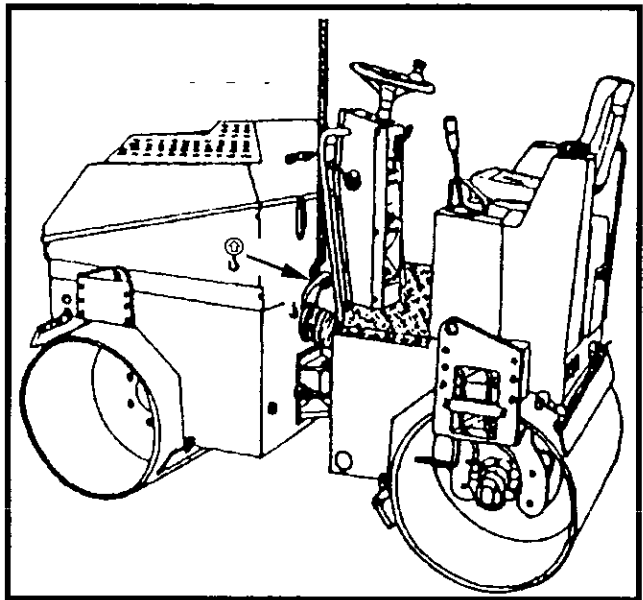

Figure 4-24 Recommended Lift Point
3. Connect appropriate lifting tackle to the speical lift point marked with the symbol , (Figure 4-24).